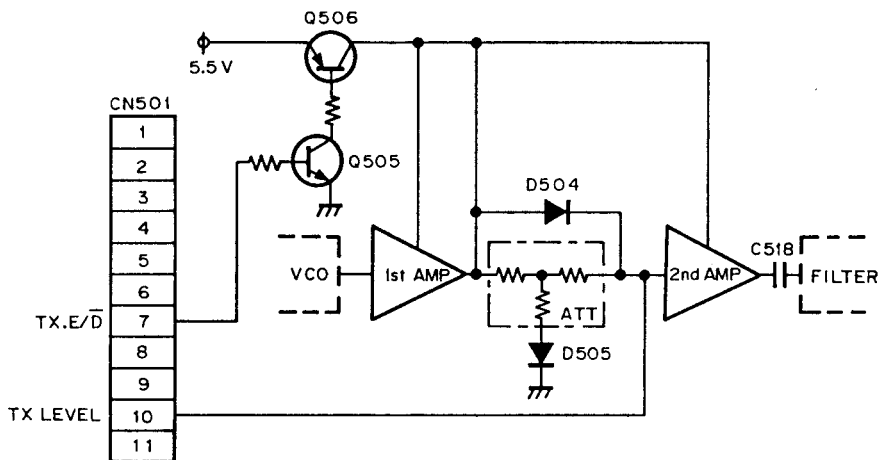

Fig. 35 Output Level Control
3. Output Level Control (Fig. 35)